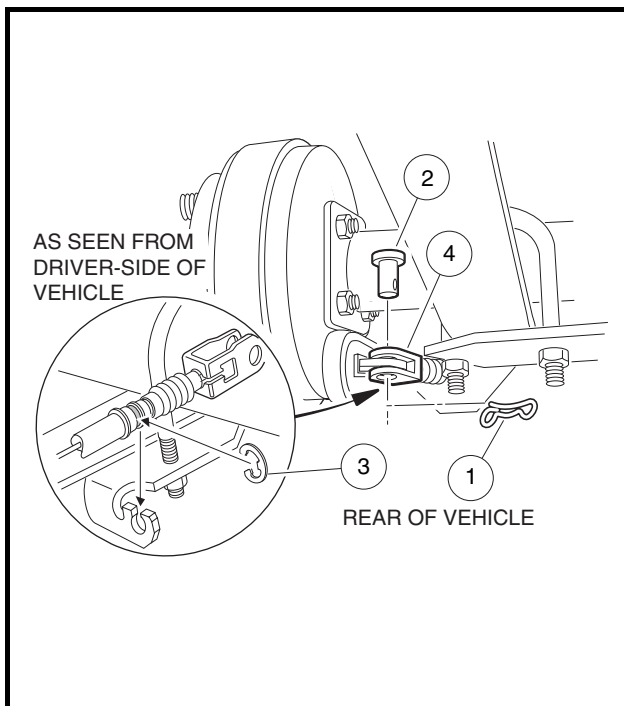

Figure 18-19 Brake Cable
5.1. Remove bow tie pins (1), brake cable clevis pins (2), and E-clips (3) (Figure 18-19, Page 18-9).
5.2. Remove the cable from the cable support bracket (Figure 18-19, Page 18-9).